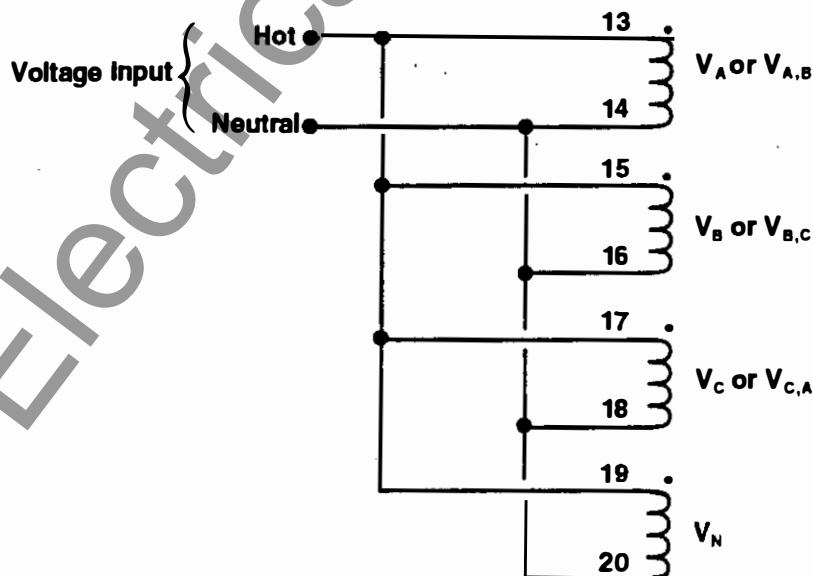

FIGURE 7-3 Single-Phase Voltage Input Configuration for Calibration
- d. Connect and configure the voltage inputs (V_A , V_B , V_C and V_N) according to Figure 7-3.